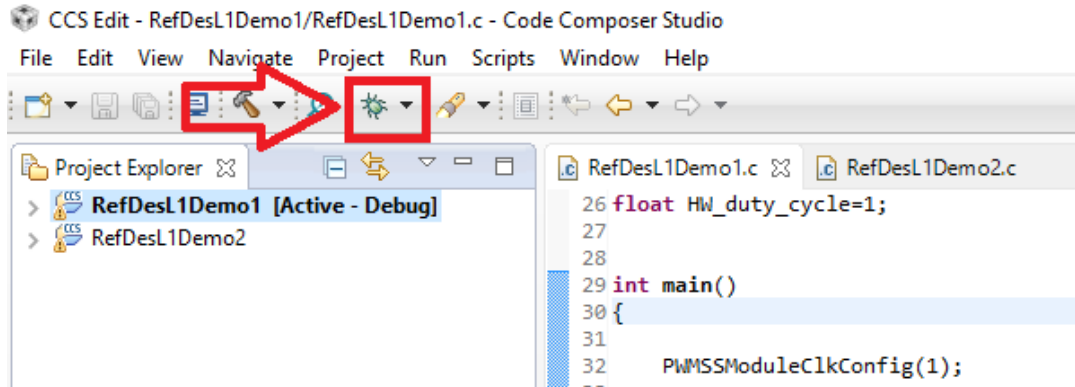

Figure 76 CCS Debug button
- Press the **Debug** button as shown in Figure 76.